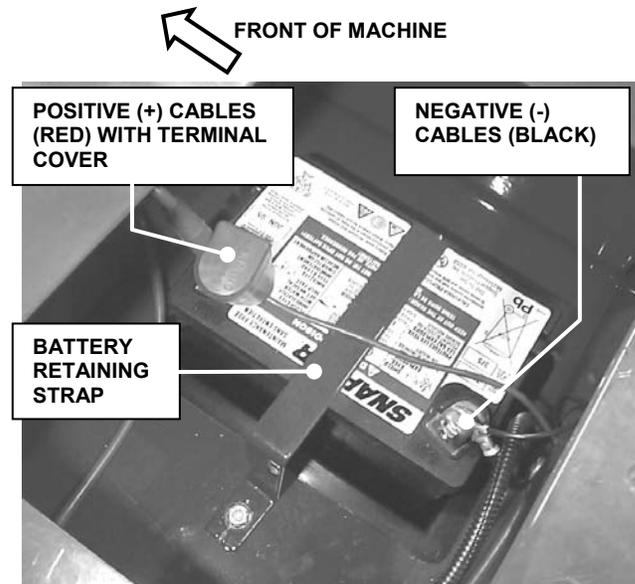

FIGURE 4.4
2. Observe and note cable positions on battery. See Figure 4.4.
4. Remove battery retaining strap hardware and carefully lift battery out of battery tray. See Figure 4.4.
Cables must be connected to battery terminals in the proper position as shown in Figure 4.4. DO NOT attempt to charge battery while installed on the Machine. DO NOT use “BOOST” chargers on the battery.
IMPORTANT! The orientation of the battery and the routing of the battery cables is very important. Install battery carefully as shown in Figure 4.4. Always install positive (red) cables using the terminal cover. DO NOT operate machine until the battery retaining rod has been installed and the battery retained securely.
1. Carefully place battery into battery tray, and replace battery retaining strap (see Figure 4.4). Tighten strap hardware securely.
2. Connect positive (+) cables (red) first, from wiring harness to the positive terminal (+) on battery using bolt and nut. Install terminal cover. See Figure 4.4
3. Connect negative (-) cables (black) last, to negative terminal (-) on battery using bolt and nut. Apply a small amount of grease over terminals to prevent corrosion. See Figure 4.4.